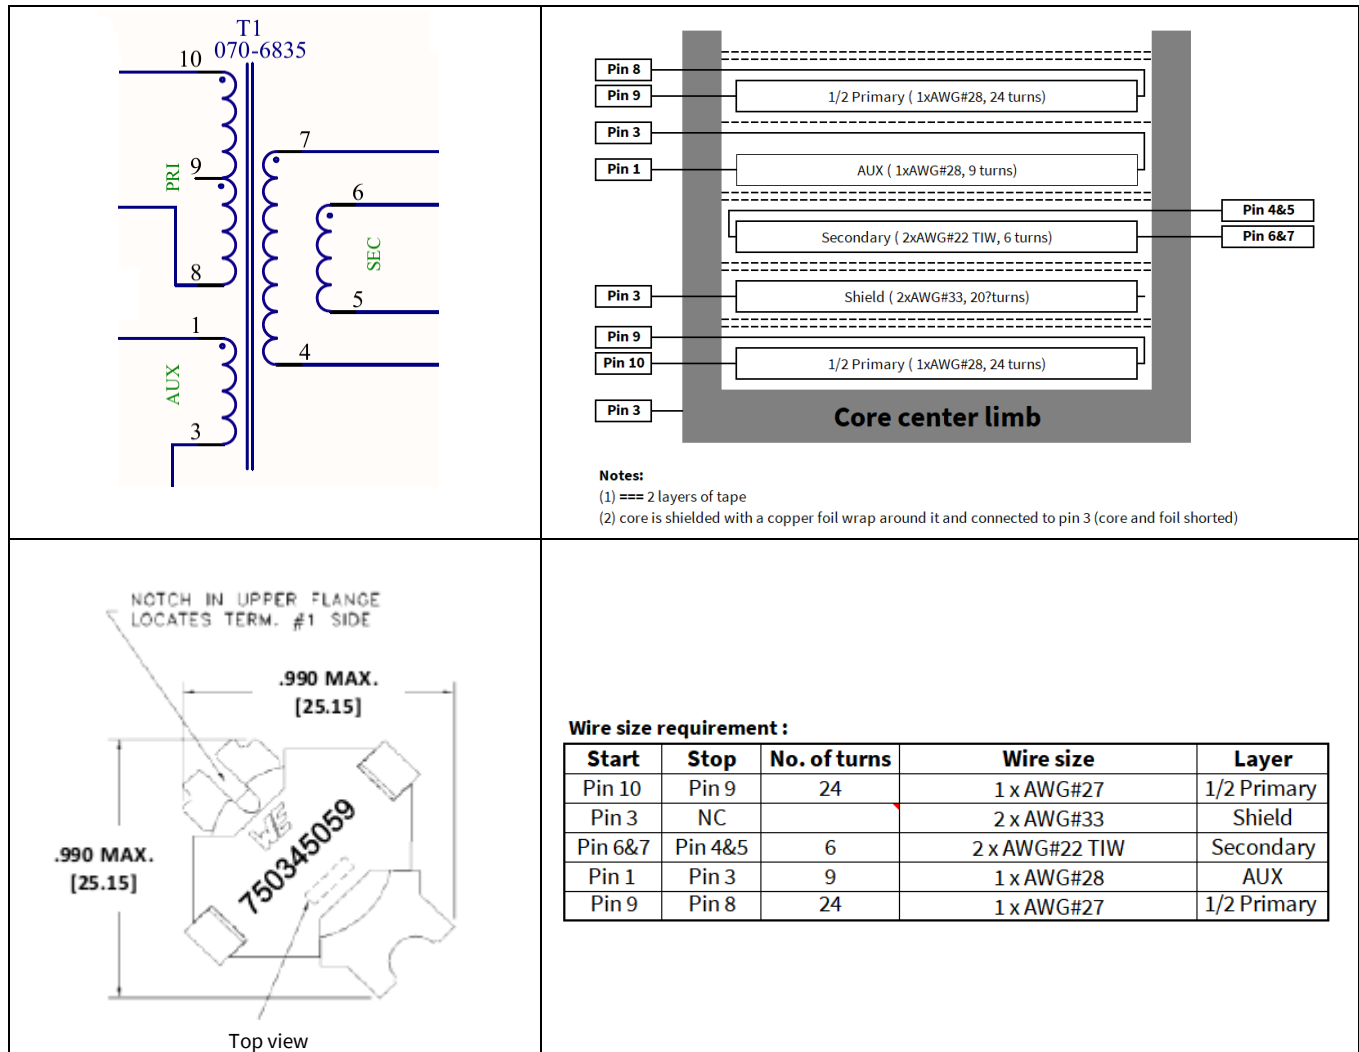

Figure 8 Transformer specification
- Good transformer winding coupling is very important. Without this it would lead to high leakage inductance and incur a lot of switching spike and high-frequency (HF) noise. The most effective method is to adopt sandwich winding (refer to **Figure 8**) where the secondary winding is in the middle of the winding and covered by the primary winding on the bottom and top layer. Shielding the transformer can reduce the HF noise. The outermost shield wrapped around the transformer cores with copper foil can help to reduce leakage flux and reduce the noise coupling to nearby components. The inner shield (copper foil or copper wire winding) between the transformer windings can help to reduce the parasitic capacitance and reduce the HF noise coupling. Both shields need to tie to the negative of C2a to achieve the best performance, but note that the inner shield approach would result in more energy loss.